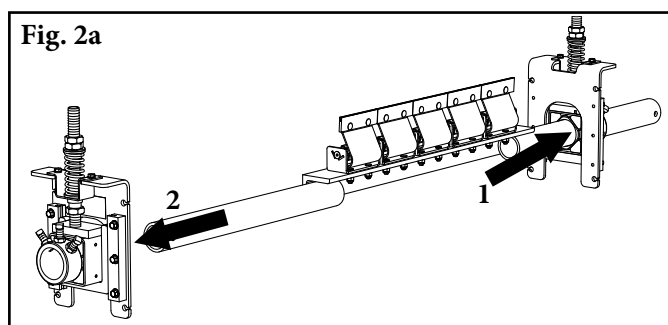

Fig. 2a
2. Install the pole. Slide the pole into one torsion pole mount as far as needed and locate the other end into the opposite mount (Fig. 2a). If there is not enough space, remove one of the torsion pole mounts from the mounting base, slide the pole through the mounting base and reassemble (Fig. 2b).